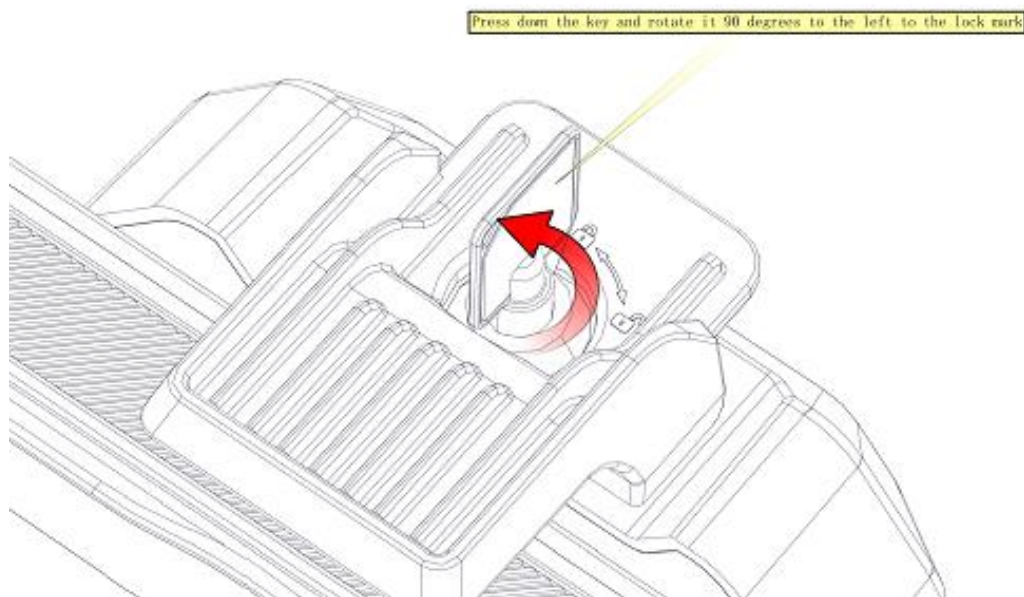

Fig. 4-8
3. Hold down the key and rotate 90 degrees to the locked sign, pull out the key to lock the telescopic buckle as shown in Fig.4-8.